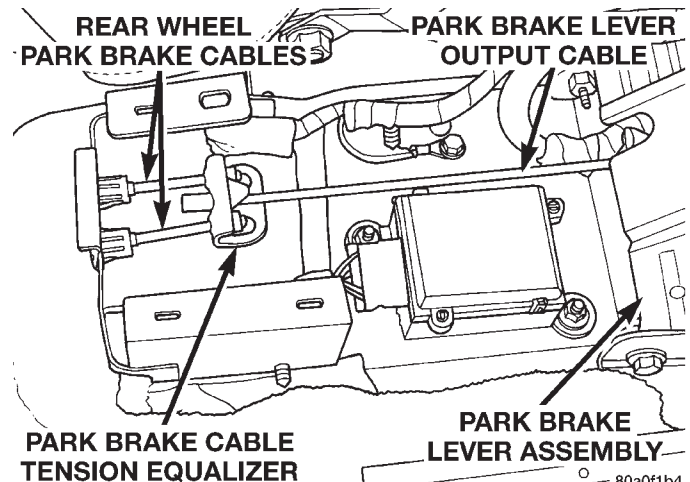

Fig. 127 Park Brake Cables At Tension Equalizer
(10) Remove the rear wheel park brake cables from the park brake cable tension equalizer (Fig. 127).
(2) Install the rear park brake cables on the park brake cable tension equalizer (Fig. 127).